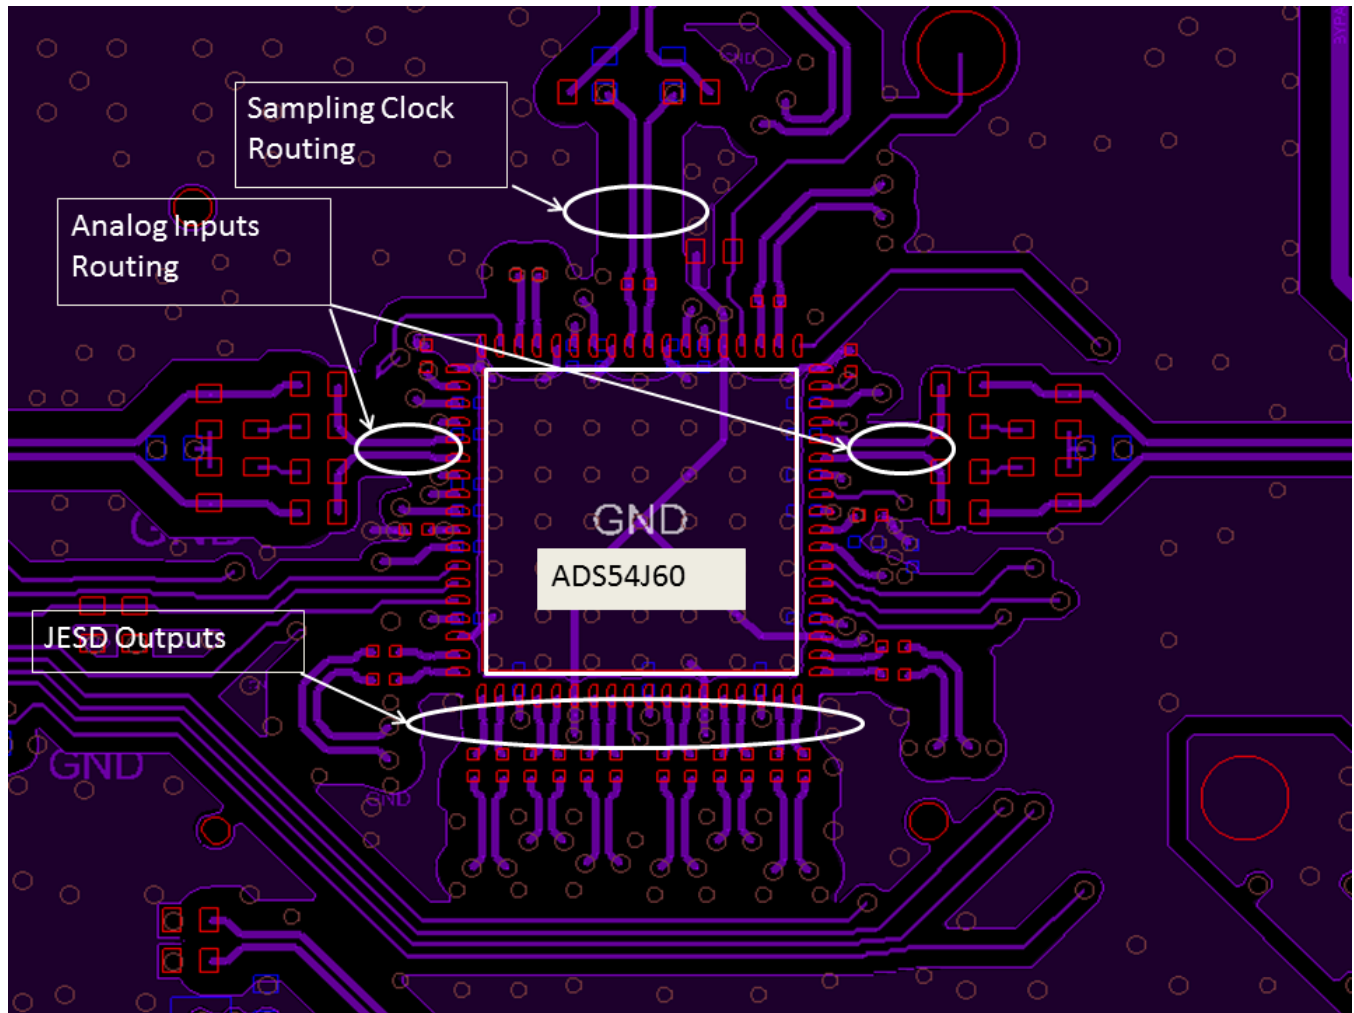

Figure 155. ADS54J60 EVB layout
The device evaluation module (EVM) layout can be used as a reference layout to obtain the best performance. A layout diagram of the EVM top layer is provided in Figure 155. A complete layout of the EVM is available at the ADS54J60 EVM folder. Some important points to remember during board layout are:
- Analog inputs are located on opposite sides of the device pinout to ensure minimum crosstalk on the package level. To minimize crosstalk onboard, the analog inputs must exit the pinout in opposite directions, as illustrated in the reference layout of Figure 155 as much as possible.
- In the device pinout, the sampling clock is located on a side perpendicular to the analog inputs in order to minimize coupling between them. This configuration is also maintained on the reference layout of Figure 155 as much as possible.